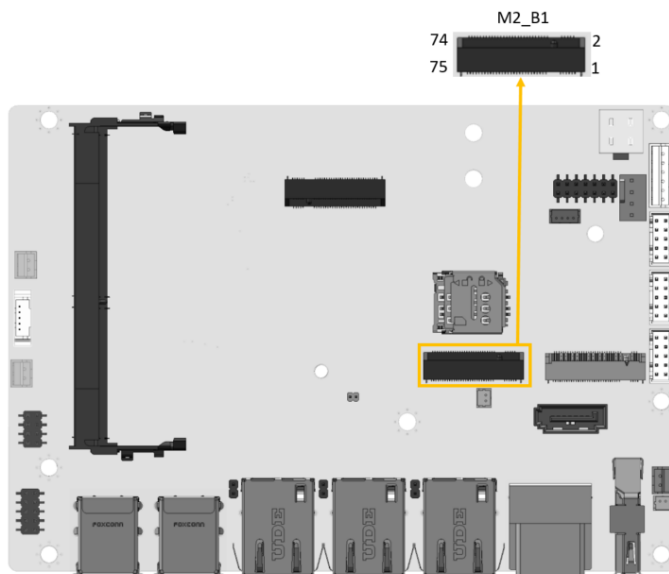

Figure 3-9: M.2 B-key Slot Location
- CN Location:** See **Figure 3-9**